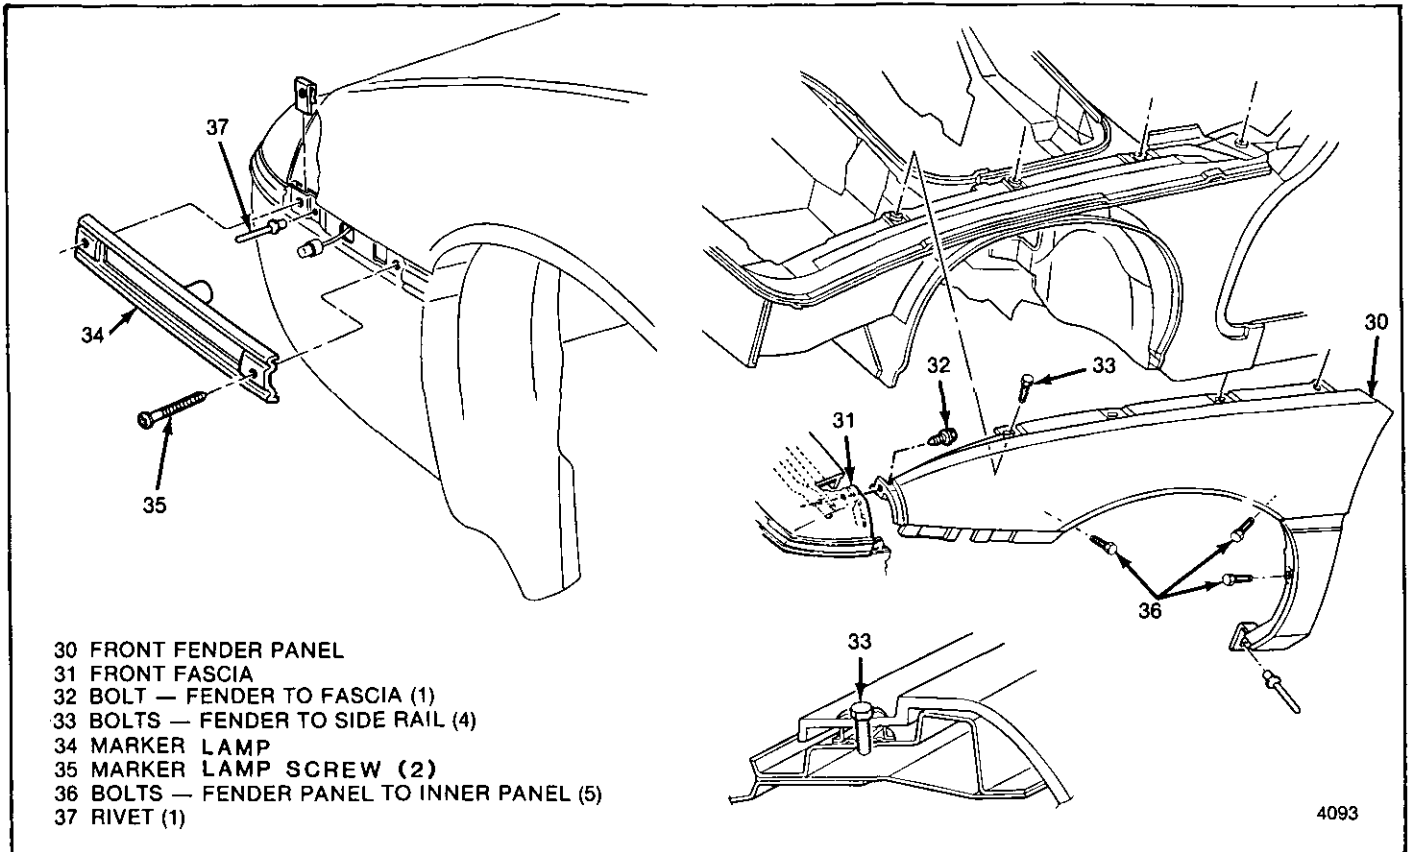
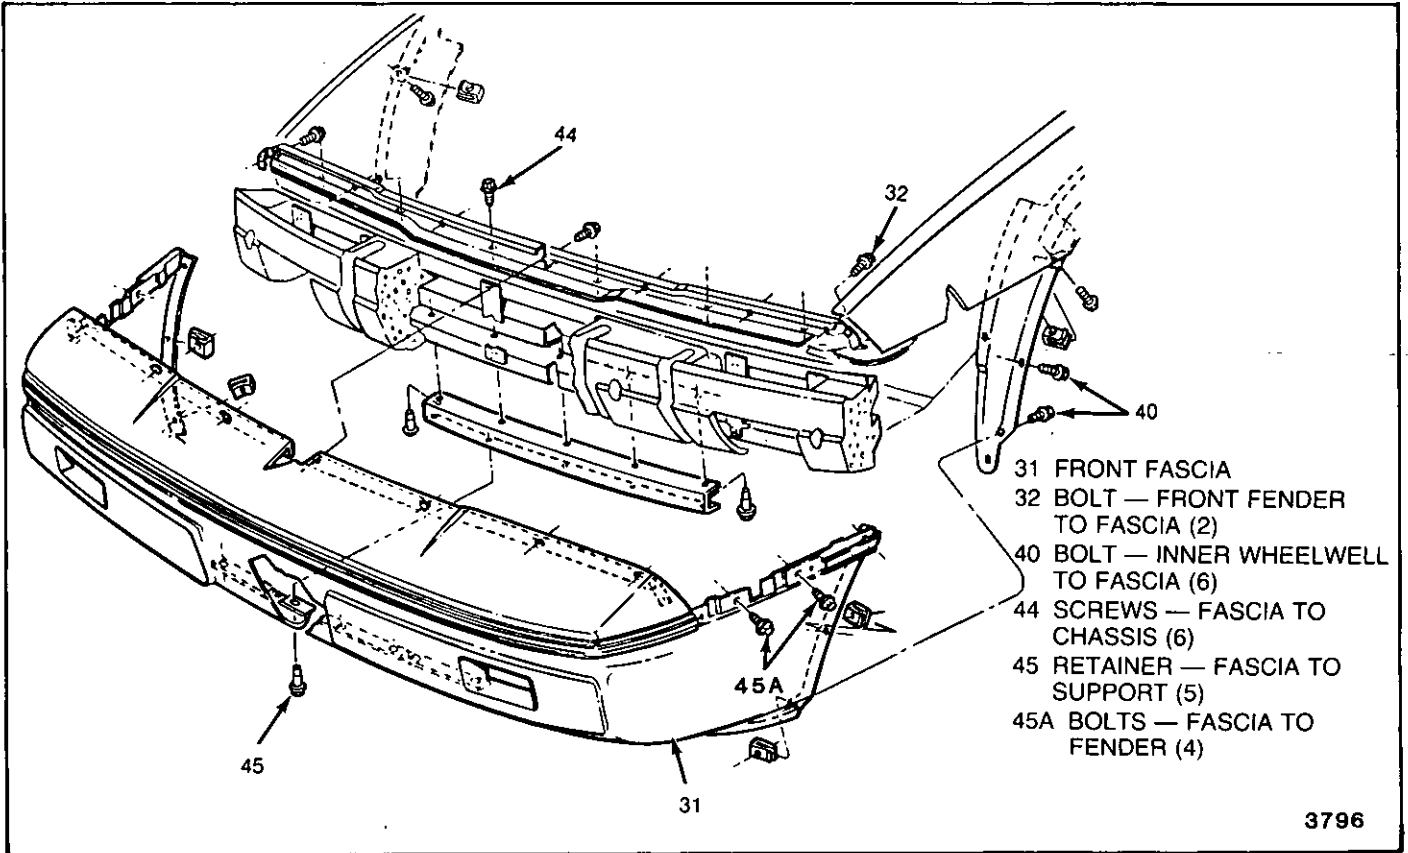

Fig. 7-Front Fender Panel Attachment
Fig. 10-Front Fascia Attachment
**↔ Remove or Disconnect (Figure 7)**
**↔** Install or Connect (Figure 7)
1. Fender panel (30)
- Upper forward front fender to fascia (32)
- Inner wheelwell panel to fender (36)
- Top at fender to chassis (33)
**↔** Remove or Disconnect (Figure 10)
1. Six screws at chassis (44)
2. Side marker lamp assemblies (34, Fig. 7)
- Inner wheelwell to fascia (40)
- Fascia support (45)
4. Fascia (31)
**↔** Install or Connect (Figure 10)
1. Fascia (31)